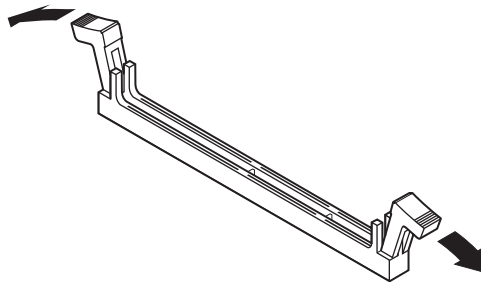

Figure 14: Opening the DIMM Socket Clamps
3. Pull open the socket clamps on each side of the DIMM socket (see Figure 14).